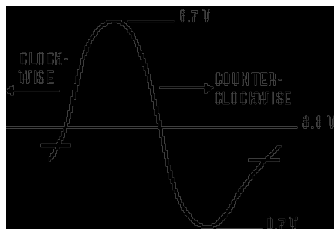

Figure 6. Voltage Change in Coil Adjustment
9. Turn PLL VCO coil (T151) on main board fully clockwise, and then gradually turn the coil counterclockwise until voltage is at the maximum level (approximately 6.7 VDC). Continue to turn the coil counterclockwise until the voltage is at the minimum level (approximately 0.7 VDC), and then turn the coil clockwise until voltage indicates 3.8 ± 1.0 VDC. Voltage change in the coil adjustments is shown in Figure 6.